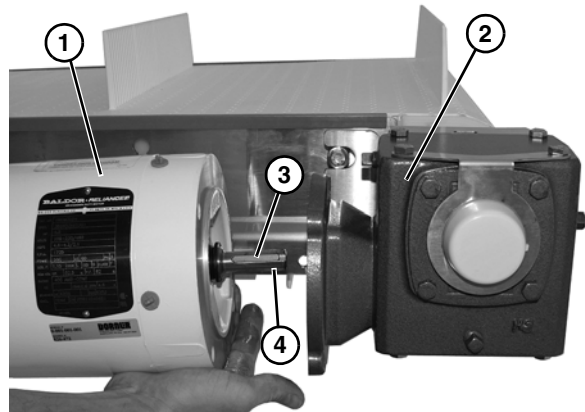

Figure 27
6. Slide motor (Figure 27, item 1) off of gear reducer (Figure 27, item 2), and remove shaft key (Figure 27, item 3) from motor shaft (Figure 27, item 4).
7. With key (Figure 27, item 3) in keyway on motor shaft (Figure 27, item 4), slide new motor (Figure 27, item 1) and gear reducer (Figure 27, item 2) together.